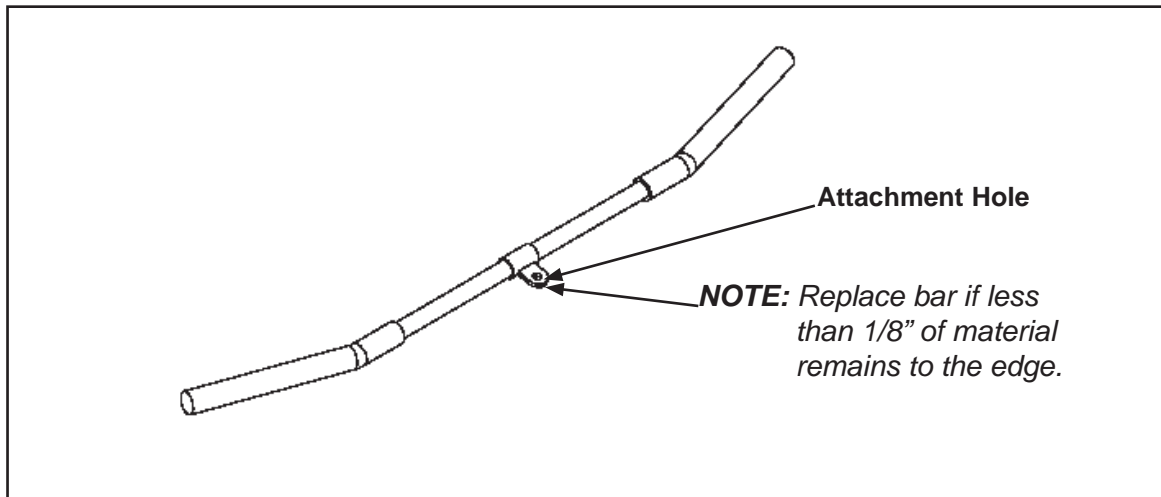

Figure 5
**CAUTION:** *Replace all worn handles immediately. Do not use if less than 1/8" of material remains to the edge. See Figure 5.*